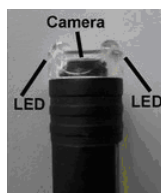

Fig.11
- b、 Press  to increase the two LED brightness. (Fig.11)